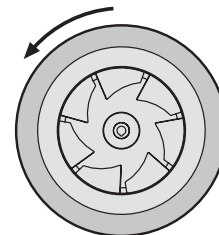

Figure 2
3. Start the fan and shut it off immediately to check rotation of the wheel, see Figure 2.
Wheel Rotation - Direction of wheel rotation is critical. Reversed rotation will result in poor air performance, motor overloading and possible burnout. Rotation should be counterclockwise when viewed from the fan inlet as shown in Figure 2. If wheel rotation is incorrect, switch two of the wiring leads for 3 phase power supply or check motor wiring for single phase power supply. Fan RPM should be checked and verified with a tachometer.